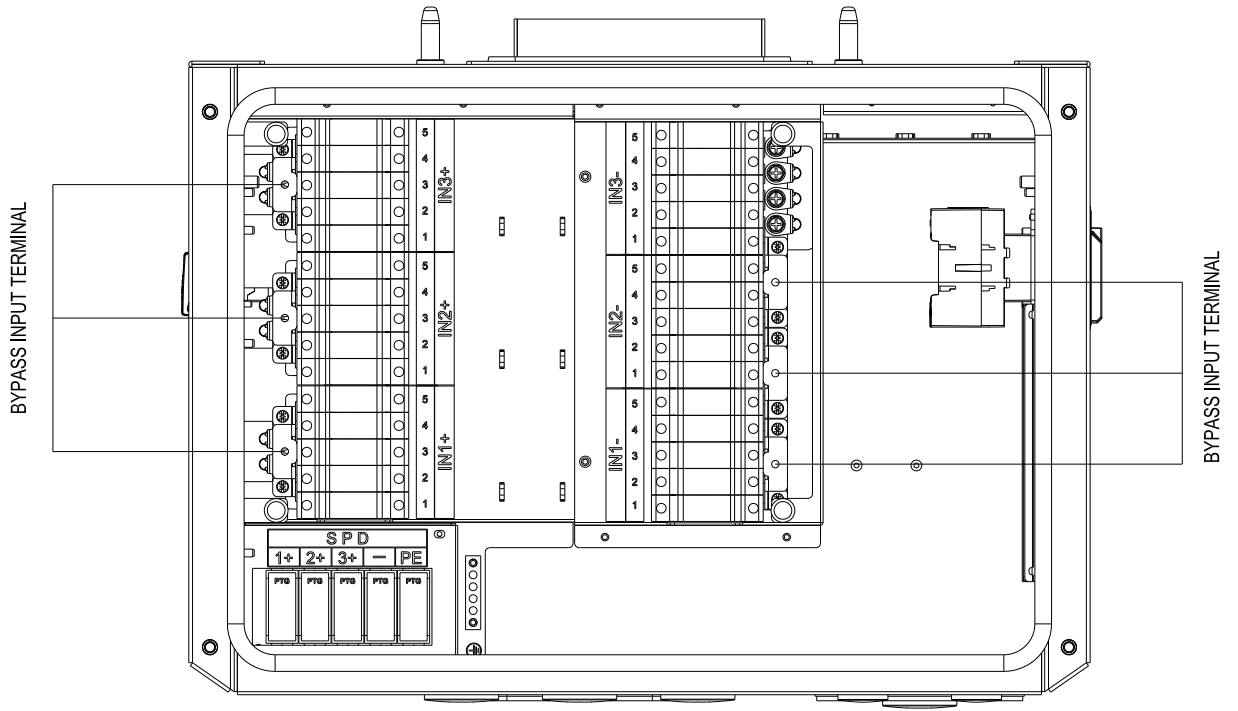

Figure 3-24 Bypass Terminal option installed within the Standard wirebox
- 4. Bypass Terminal option for standard wirebox.** Fuse Bypass Terminals are available as an optional accessory when external PV string fused combiners are used. The Bypass Terminals allow for larger single conductors to be terminated at each MPPT within the wirebox, bypassing the input fuses as shown in Figure 3-24. See Chapter 9 (Accessories) for installation information.